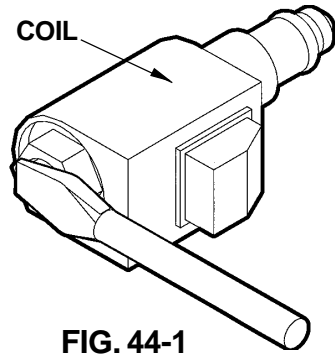

FIG. 44-1
1. Check if Solenoid Valves are constantly energized by touching a screwdriver to the top nut of the Solenoid (**FIG. 44-1**). Try pulling the screwdriver away from the solenoid. If the solenoid nut attracts the screwdriver (magnetically) without pushing the toggle switch, the control circuit is operating incorrectly. Check if toggle switch, wiring or coil are faulty.